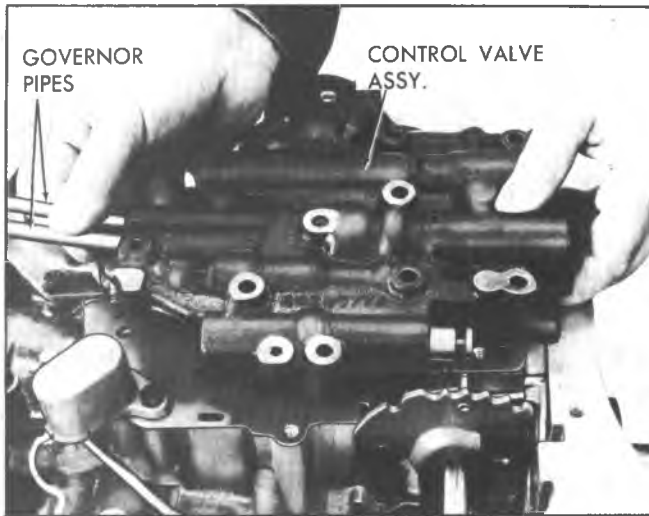

Fig. 7A-10C--Removing Control Valve Assembly and Governor Pipes from Case
2. Remove control valve assembly and governor pipes (Fig. 7A-10C). Do not drop manual valve.
3. Remove governor screen assembly from governor feed pipe hole in the case or from end of governor feed pipe (Fig. 7A-11C). Clean governor screen in clean solvent and air dry.